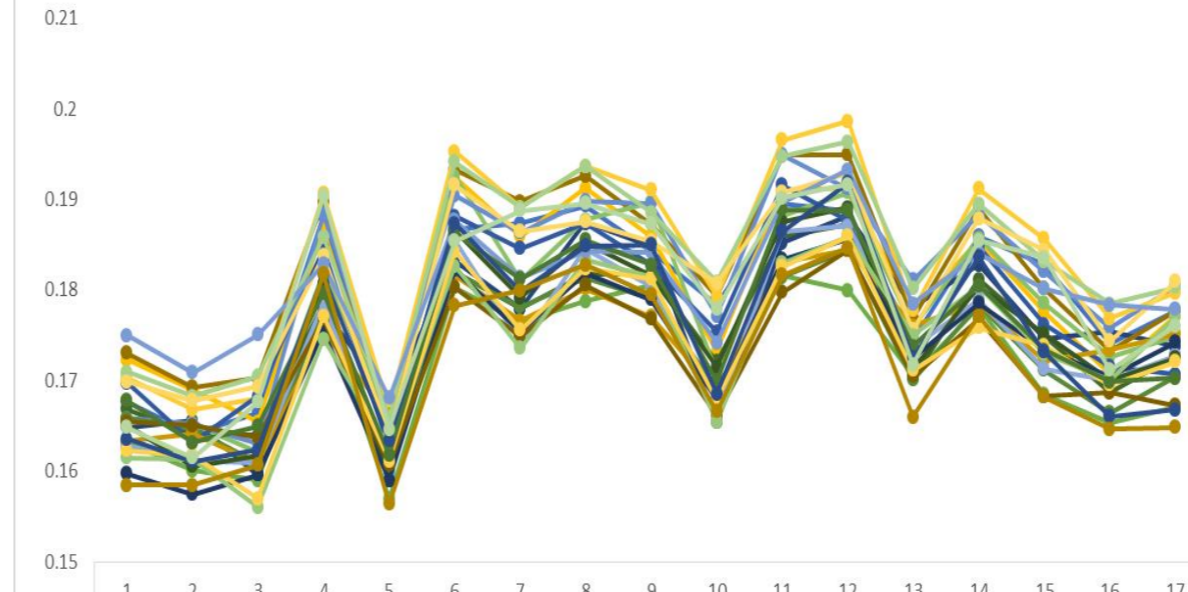

Fig 3: Wafer Correlation
- From Fig 3, a clear pattern could be observed. Wafers are nearly identically. One wafer could be used to represent an entire lot.